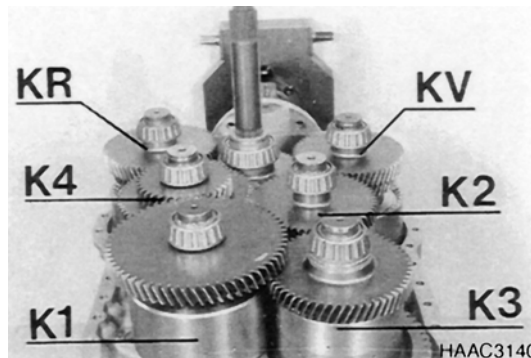

Figure 237
7. Figure 237, shows the installation position of the single clutches in the housing cover.